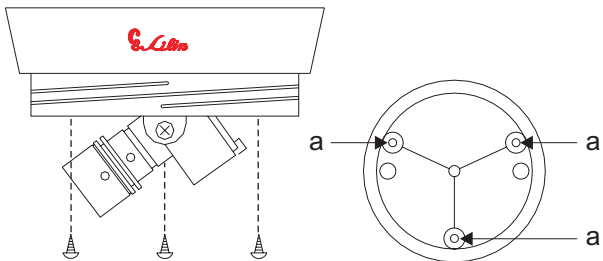

FIG. 1
1. Put the given screws (M3.0 x 25, wooden screw) through "a", and fix the base in the proper location (FIG.1).